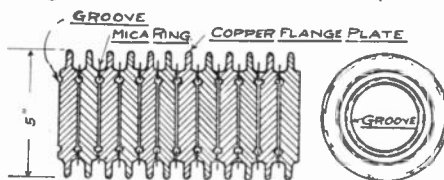

Fig. 3.
The new spark gap to produce the "quenched" spark consists of 12 circular flanged plates of copper, 5 inches in diameter, the surfaces being turned true and having a groove in them. (Fig. 3.) A mica ring is interposed between each
Fig. 3 shows the connection of the receiver to the condenser with the battery circuit before closing or before making the complete circuit. Now, when you connect A to B, as in Fig. 3, you will hear a "click." Then break the connection and make and break it rapidly several times in succession. If your condenser is good the only loud "click" you will hear in the receiver will be when you first make the contact. This is due to electricity flowing into the condenser to charge it to the same difference of potential as exists between the terminals of the battery. Once it is charged, if good, only an unappreciable current, due to what is sometimes called a
Next obtain a piece of Wollaston wire about one-half inch long and solder it to a number thirty-six copper wire; put these into a thermometer tube and draw out in a flame so as to seal the Wollaston wire in the tube; break the tube at its thinnest point and rub it on an oil-stone until the wire and glass are flush. Cut a piece of sheet zinc in shape shown in Fig. 3 and bend the wide part so it will fit in the test tube.
M.E. -FIG 3-